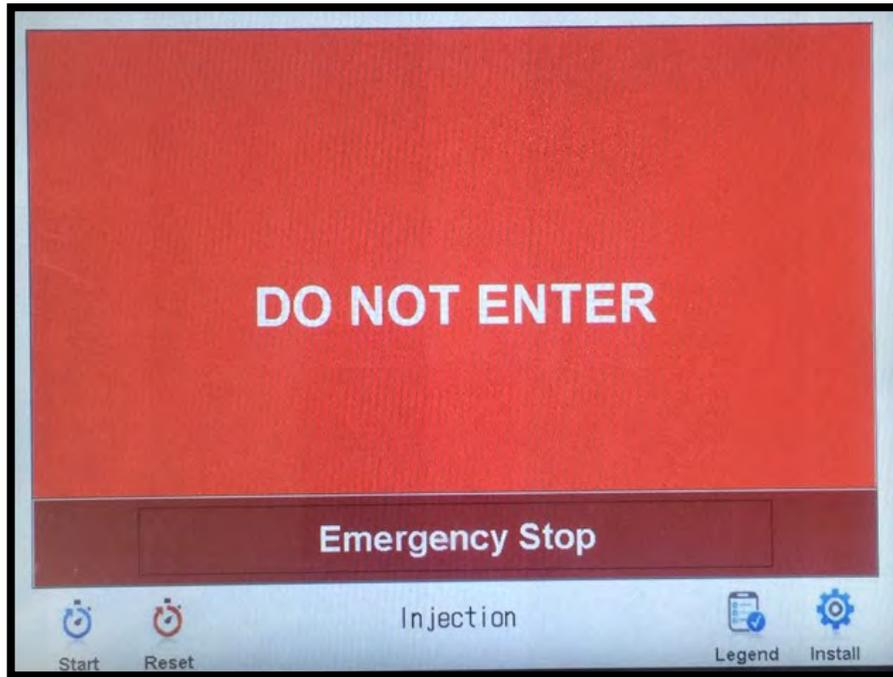

FIGURE 5
4.3.8 The first stage of the decontamination process is the “Injection” stage. This is when the disinfectant solution is atomized into the treatment area. (Figure 5).